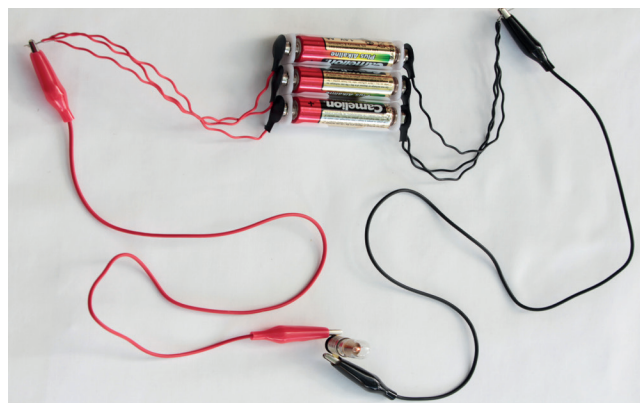

Figure 4: Three cells in parallel connected to a lamp
Figure 4 below shows three cells connected in parallel in a circuit. The positive terminals of all three cells are connected to one another and to the lamp. The negative terminals of all three cells are connected to one another and to the other terminal of the lamp.
1. Draw a circuit diagram of the circuit in Figure 4.